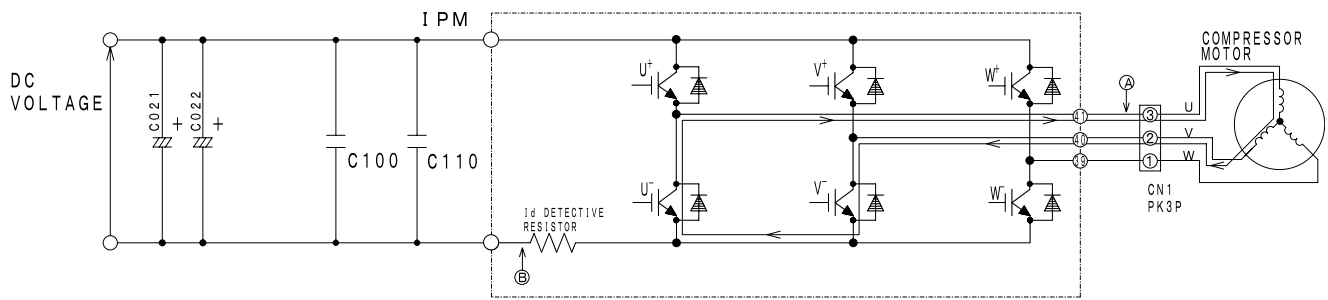

Fig. 4-4 Power module circuit (U⁺ is OFF, V⁻ is ON)
At point ⑥: U⁺ is chopped (OFF), V⁻ is ON (circuit in Fig. 4-4)
- (2) When U⁺ transistor is OFF: (by inductance of motor coil) U coil → V coil → V⁻ transistor → U⁻ diode → Point ⑥ (Fig. 4-4)